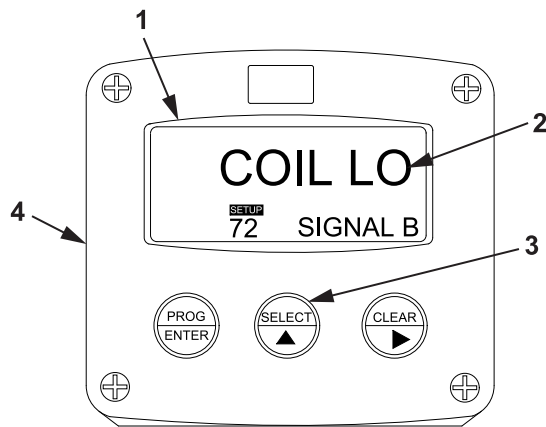

Figure 35. COIL LO Display.
- d. Verify that COIL LO (Figure 35, Item 1) appears on the display screen (Figure 35, Item 2). If COIL LO (Figure 35, Item 1) does not appear, perform the procedure to program tank volume meter monitor settings and select COIL LO (Figure 35, Item 1).
- e. Press the SELECT key (Figure 35, Item 3) on the tank volume meter monitor (Figure 35, Item 4).